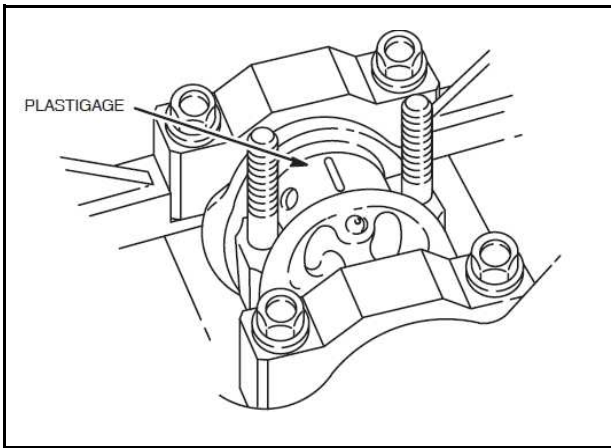

Fig.7-Install Plastigage
- a. Lay a strip of plastigage lengthwise on journal, Fig.7.